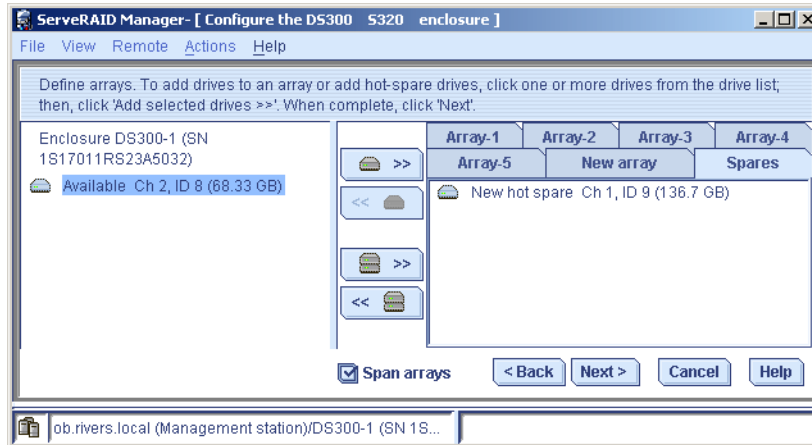

Figure 4-68 Checked Span arrays
13. Click the **Span arrays** check box shown in Figure 4-68 to create spanned arrays. Without checking this checkbox, spanned arrays cannot be created. Click **Next**.